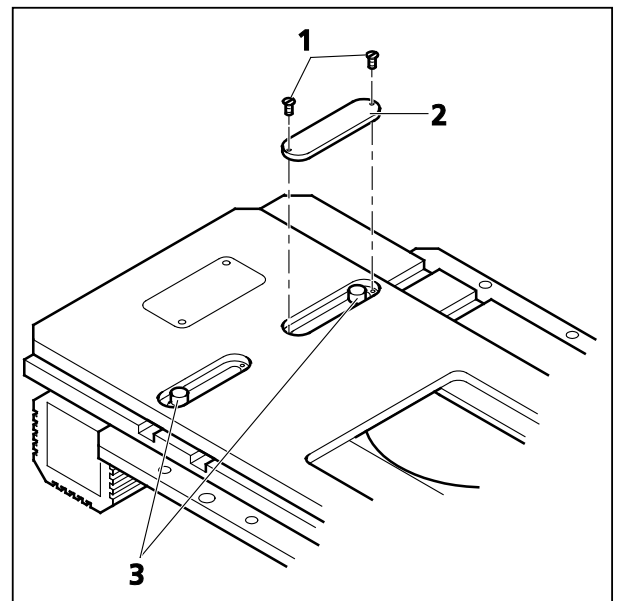

Fig. 3-9 Upper Side of the Scanning Stage
- In order to change the front or rear stop for the Y direction, first turn out the screws (Fig. 3-9/1) of the covers on the upper side of the stage and remove the covers (Fig. 3-9/2).
- Then loosen the stop screws (Fig. 3-9/3), move the screws in the desired position and retighten them.